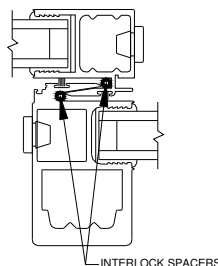

Figure 33:
6. Verify that all panels with interlocker hooks engage properly. If lead stile panel is not engaging properly with the jamb or meeting stiles, remove interlock spacers as necessary (Figure 33)